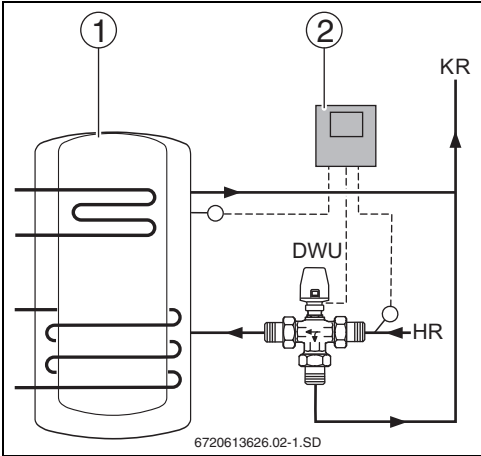

Fig. 8 Valve for return boost
► Fit 3-way motorised valve in return pipe between reserve cylinder or combination cylinder (→ Fig. 8, Item 1) and boiler according to the table below.